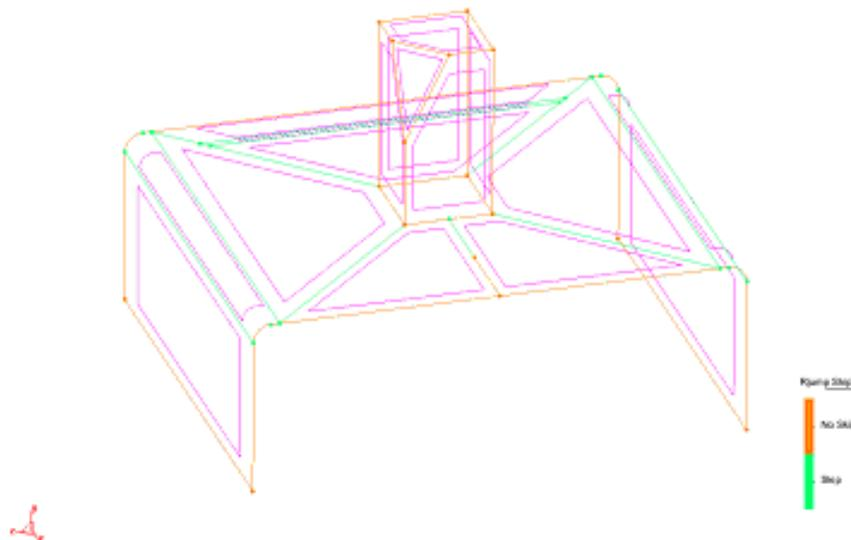

Figure 12. Entities that will be skipped and not skipped using the RJump mesher.
- 2 . Select **Mesh->Draw->Skip entities(Rjump)** to display the entities that will and will not be skipped in different colors. As is shown in Figure 12, line 43 will now not be skipped; the rest of the lines are unaffected, and RJump will either skip or mesh them according to its criteria.